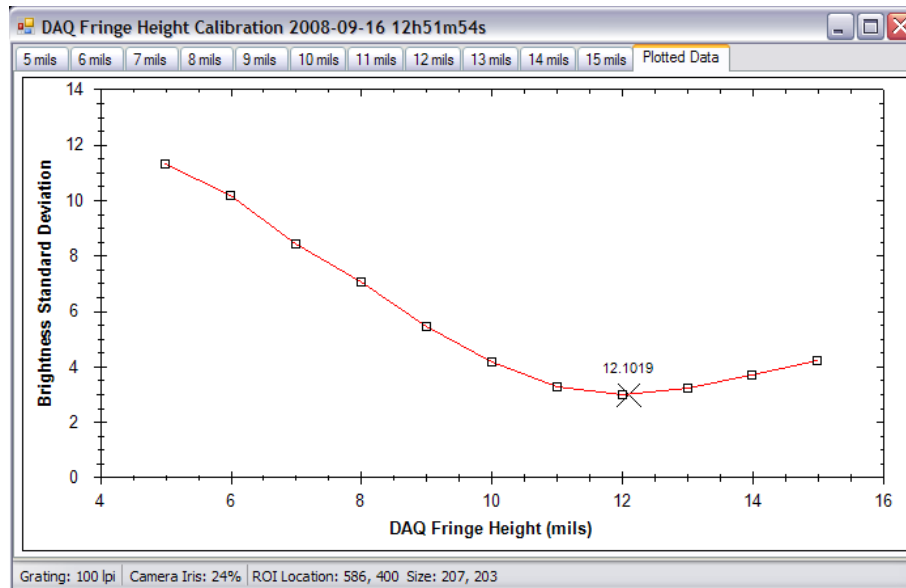

Figure 2.14 DAQ Fringe Height Cal Dialog
3. Right click to select **Start Calibration...** from the Camera window context menu. A series of images is taken with different step heights to determine the best calibrated phase step distance, or **DAQ Fringe Height**. While the images are being taken a dialog (see **Figure 2.14**) pops up showing the captured images and a plot of the intensity standard deviation for each step height trial.